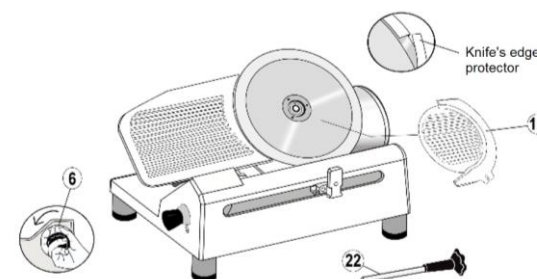

FIG 1. HOW TO REMOVE THE KNIFE'S EDGE PROTECTOR
- 1 Sharpener box (8)
C.- Take out the carriage assembly. Do the same with the Base unit Assy by lifting from the base (1), (exercise proper lifting method, preferably do this procedure with two persons).
E.- Remove the knife edge protector by following the next instructions (**See Fig. 1**):
• Rotate the slice adjusting knob (6) counter clockwise until it stops.
• Remove the knife guard plate (12) by loosening the knife guard knob (22).
• Once the knife edge protector is removed, Assemble again the knife guard plate (12) and assure it with the knife guard knob(22). Close the thickness gauge plate (5) by rotating the slice adjusting knob (6) clockwise fully.